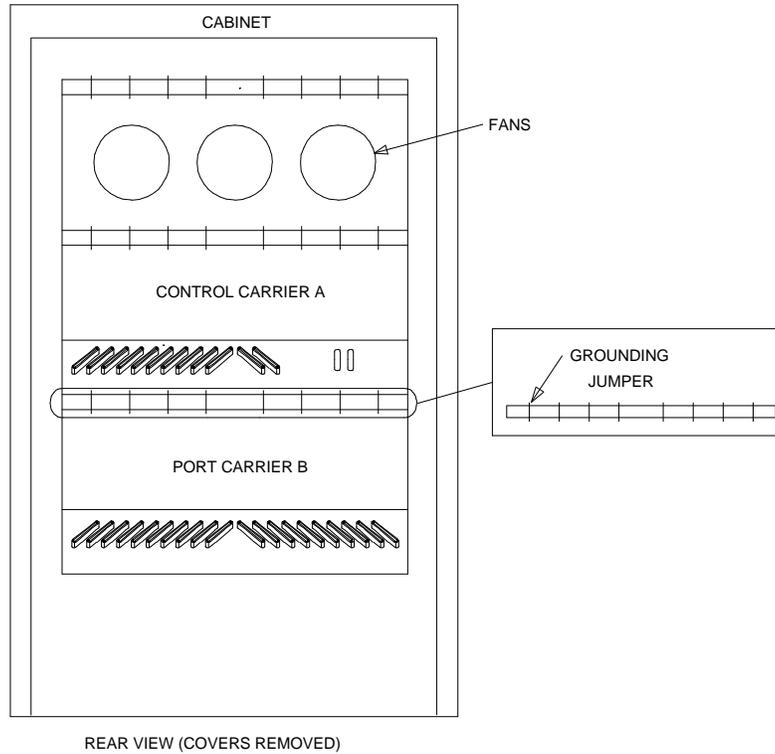

Figure 4-27. Locations of Grounding Jumpers (Small Cabinet)
7. Install eight grounding jumpers from the adjacent backplane to the new carrier backplane wiring (Figure 4-27 and Figure 4-28).